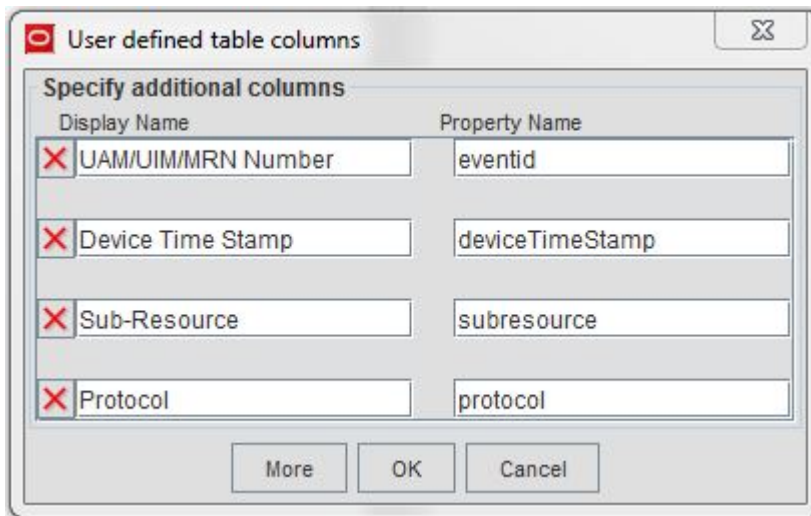
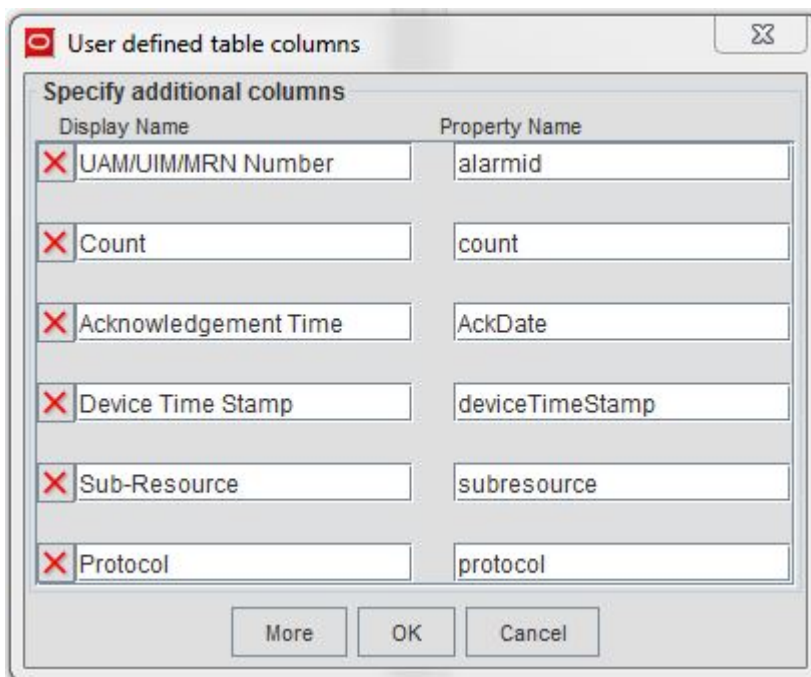

Figure 135: Specifying Additional Table Columns for Network Events
Figure 136: Specifying Additional Table Columns for Alarms
The **User defined table columns** dialog box is displayed, as shown in Figure 135: Specifying Additional Table Columns for Network Events and Figure 136: Specifying Additional Table Columns for Alarms.
4. Enter the display name and corresponding property name in the **Display Name** and **Property Name** fields exactly as shown in Figure 135: Specifying Additional Table Columns for Network Events and Figure 136: Specifying Additional Table Columns for Alarms.